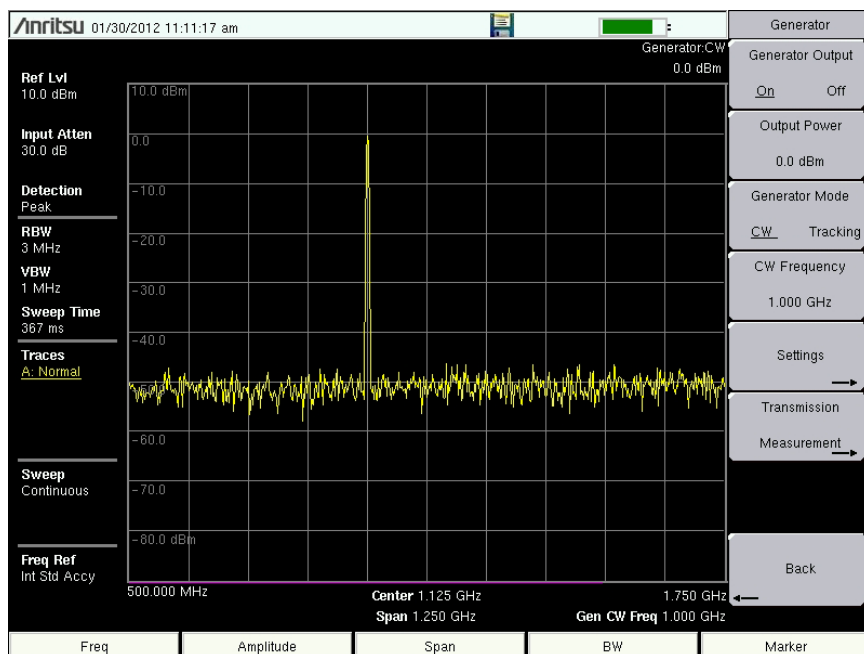

Figure 3-7. CW Output Example
- Figure 3-7 displays the CW output at 1 GHz frequency and 0.0 dBm power. Refer to “Generator Menu” on page 3-9 for additional information.